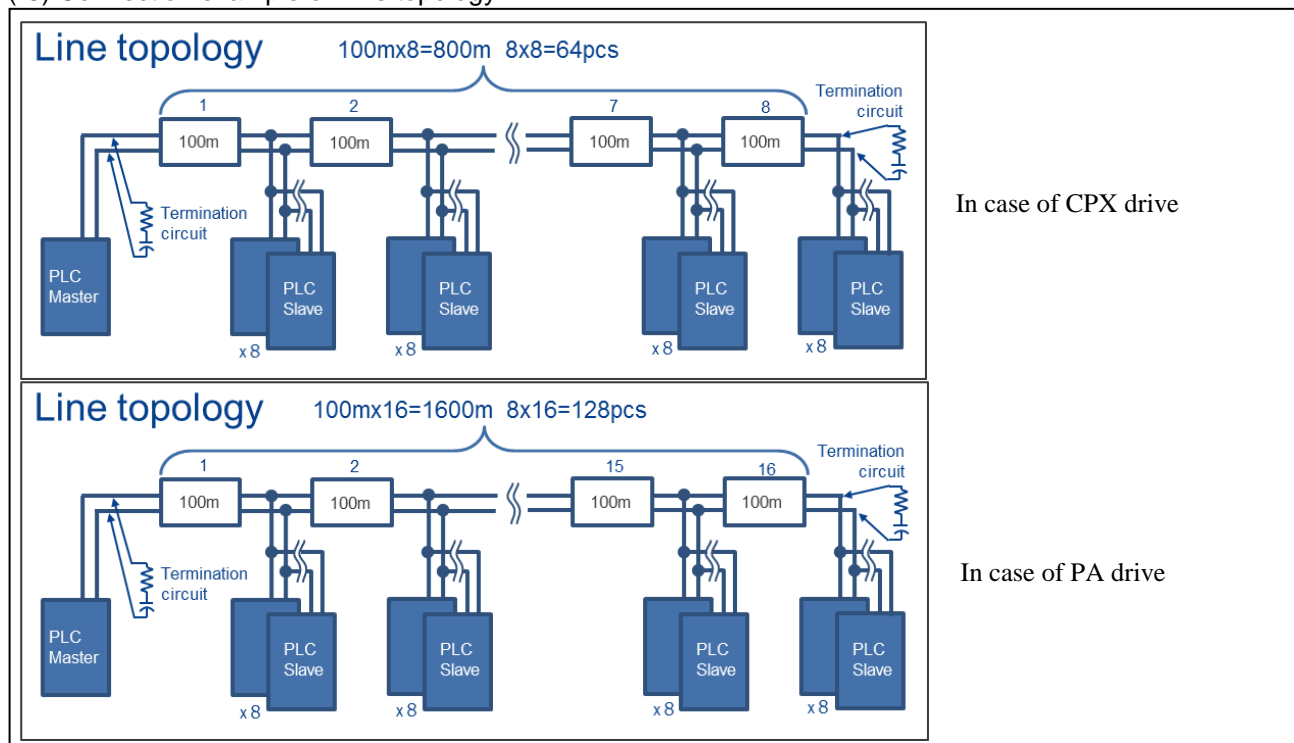
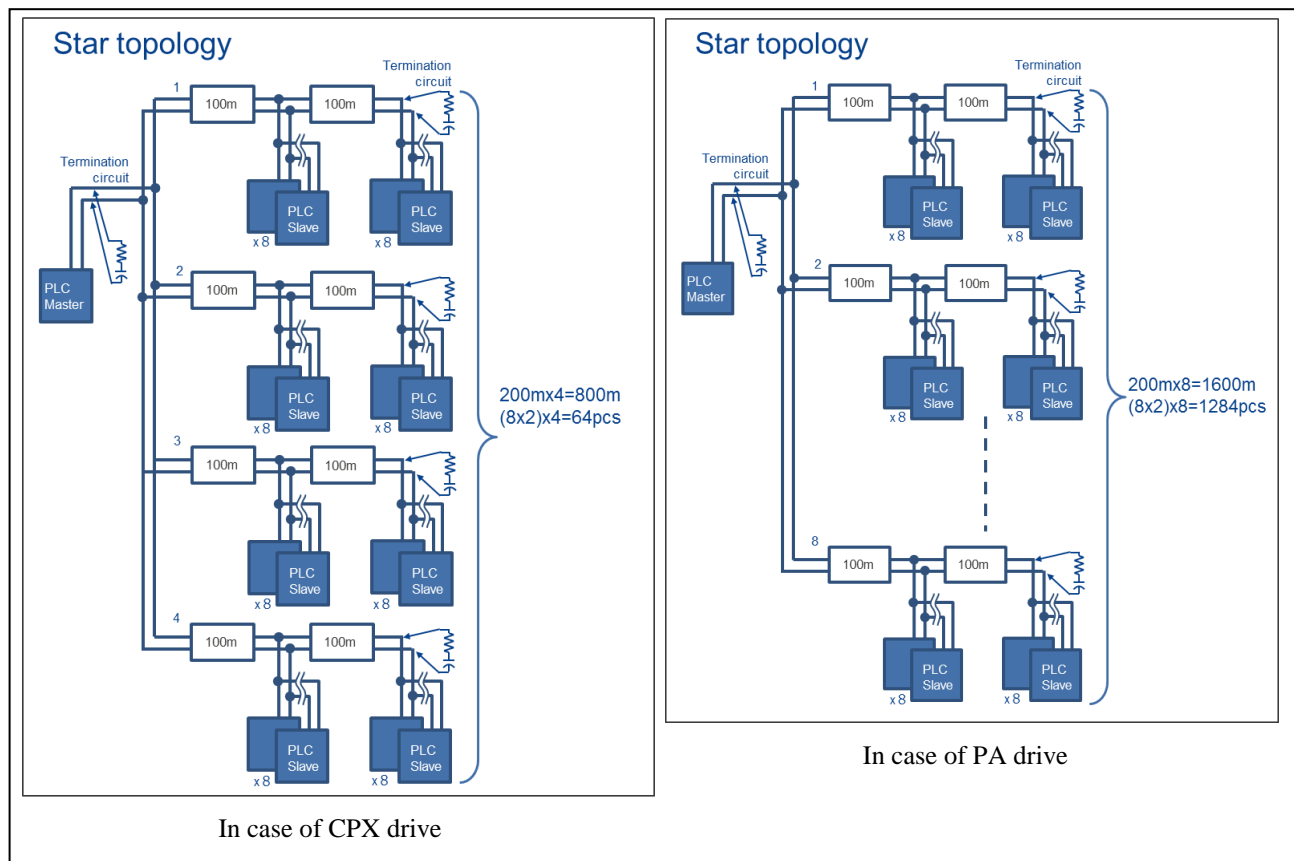

Figure 1-2 Connection example of Line topology
Figure 1-3 Connection example of Star topology
- It is recommended to add the termination circuit to transmission and receiving end to suppress influence of the reflection of the cable. An example of termination circuit insertion is shown in Figure 1-2 and Figure 1-3.